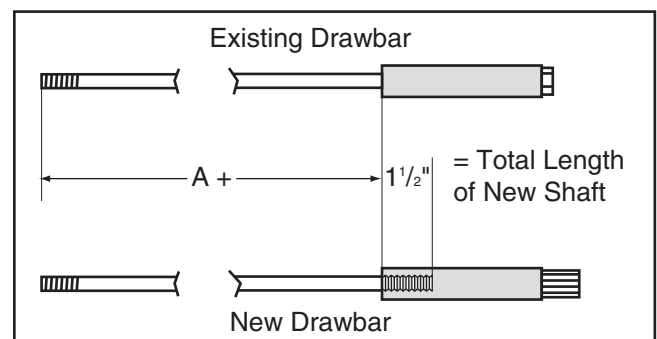

Figure 6. Calculating the length of the new shaft.
2. Measure the length of your mill's existing drawbar from the bottom of the bolt head to the end of the drawbar shaft, then add 1½" (see **Figure 6**).